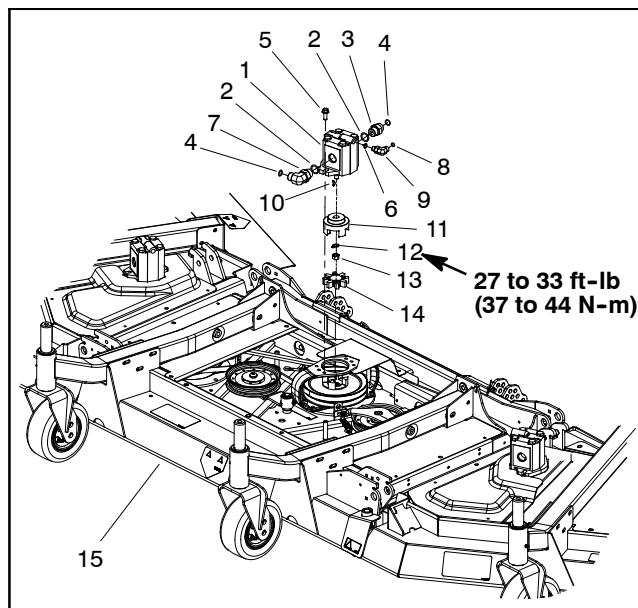

Figure 90
Removal (Fig. 90)
5. Remove two (2) flange head screws that secure hydraulic motor to motor mount (Fig. 90).
Installation (Fig. 90)